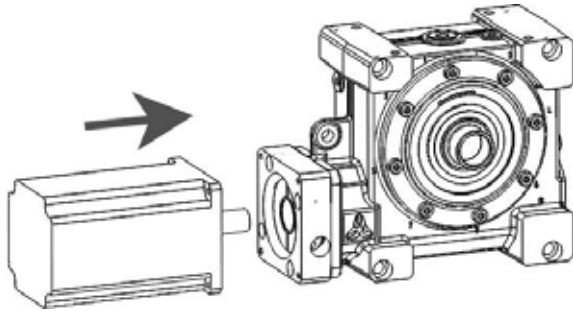

Fig 6.3
- ➔ Position the motor so that the plane surfaces fit together. (fig. 6.3)